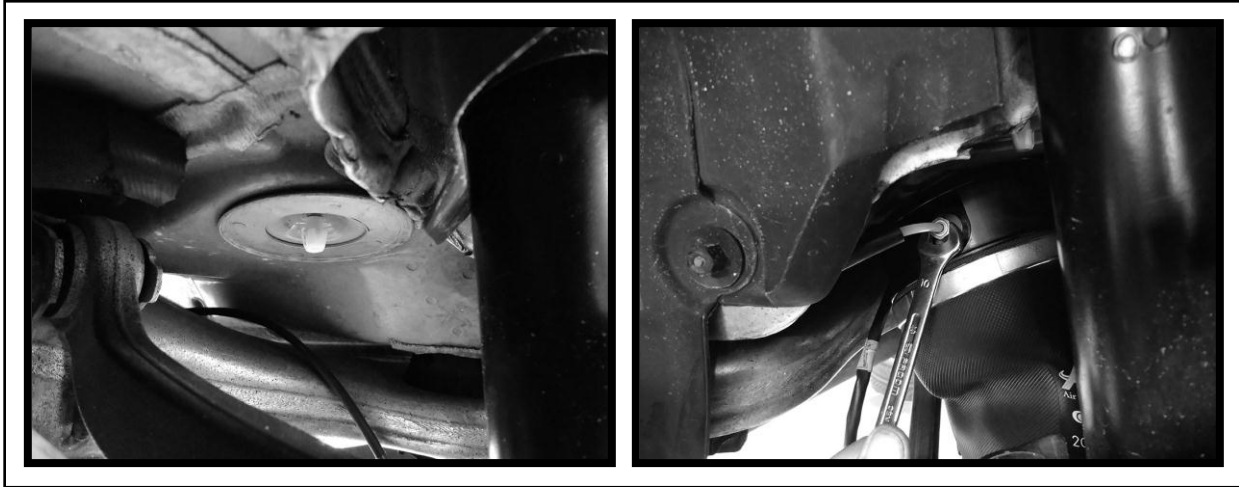

FIGURE 10-14
5.0 ENGAGE TOP CLIP, AND INSTALL AIR LINE. (FIGURE 10-14)